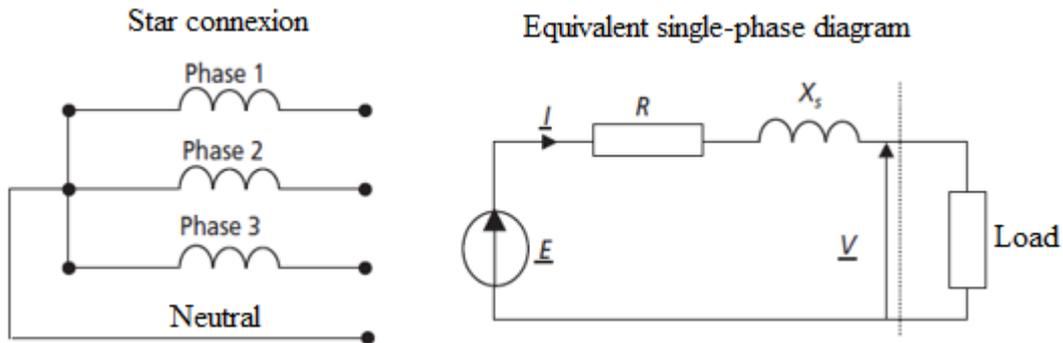

Figure 1
1) FIG. 1 shows the star coupling of the alternator and the equivalent single-phase diagram of the machine according to Behn-Eschenburg.